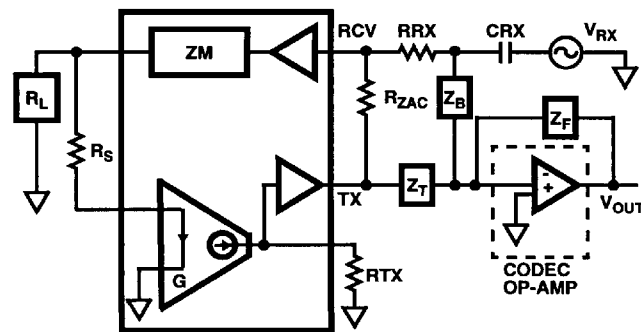

FIGURE 8. HYBRID FUNCTION
**Calculate Balance Network: (See Figure 8)**
Transhybrid Balance (see Figure 8)